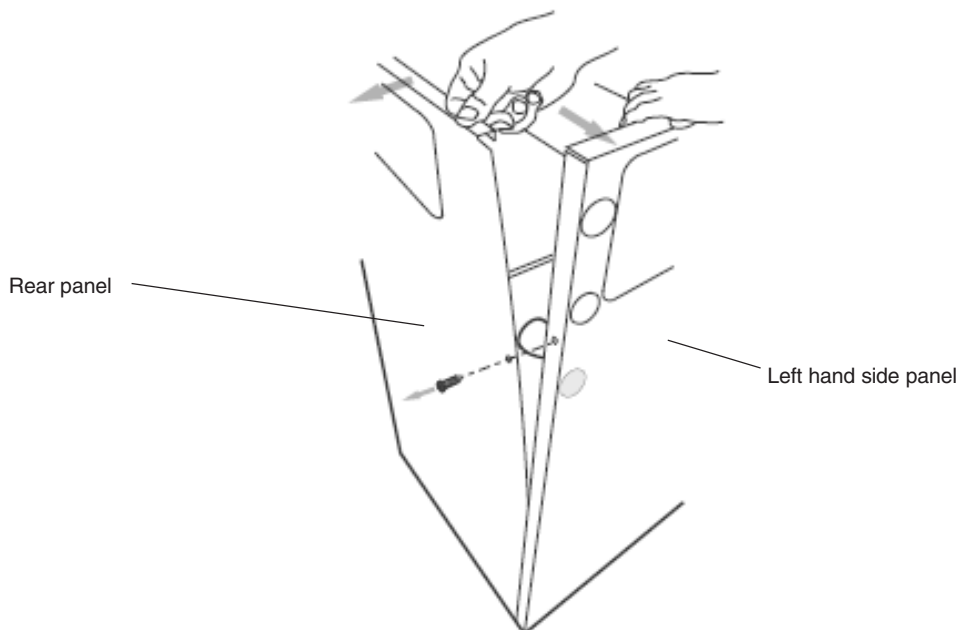

Fig. 16 - Remove the condensate trap
- 3 Carefully separate the left side and rear panels just enough to gain access to the condensate outlet on the left rear of the condensing heat exchanger (see Fig.16).